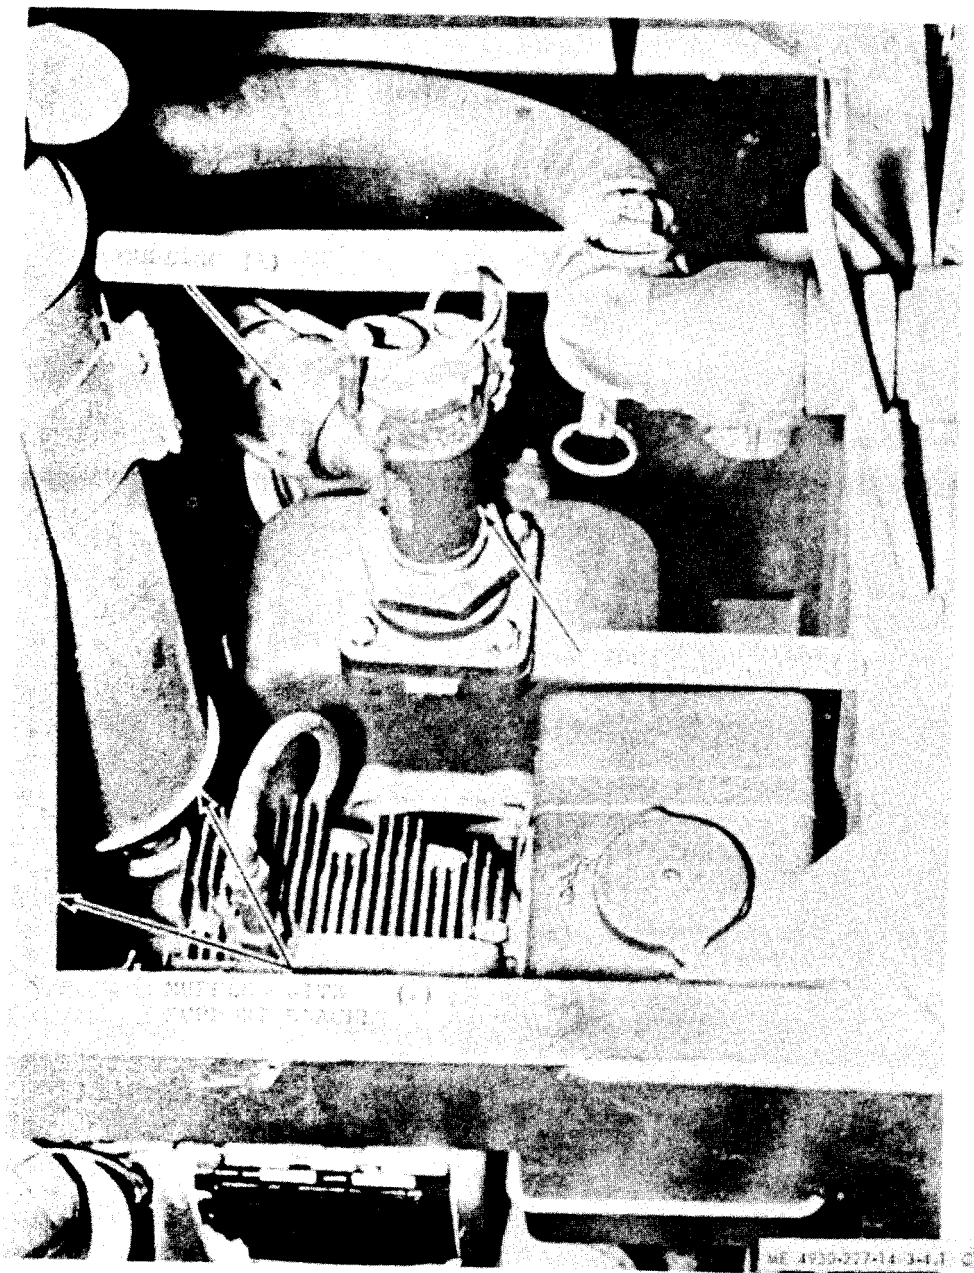
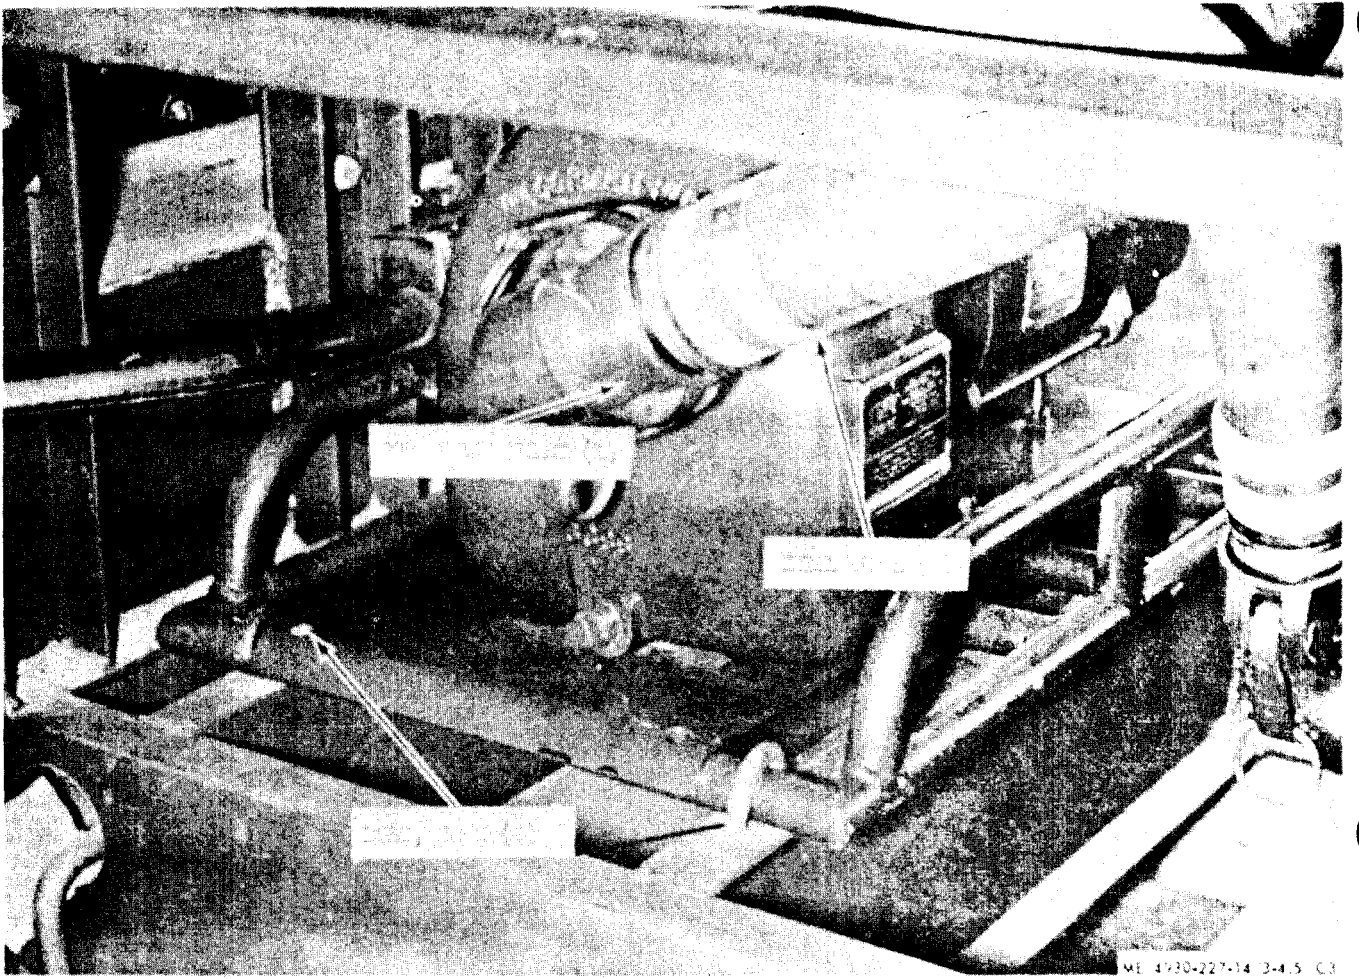
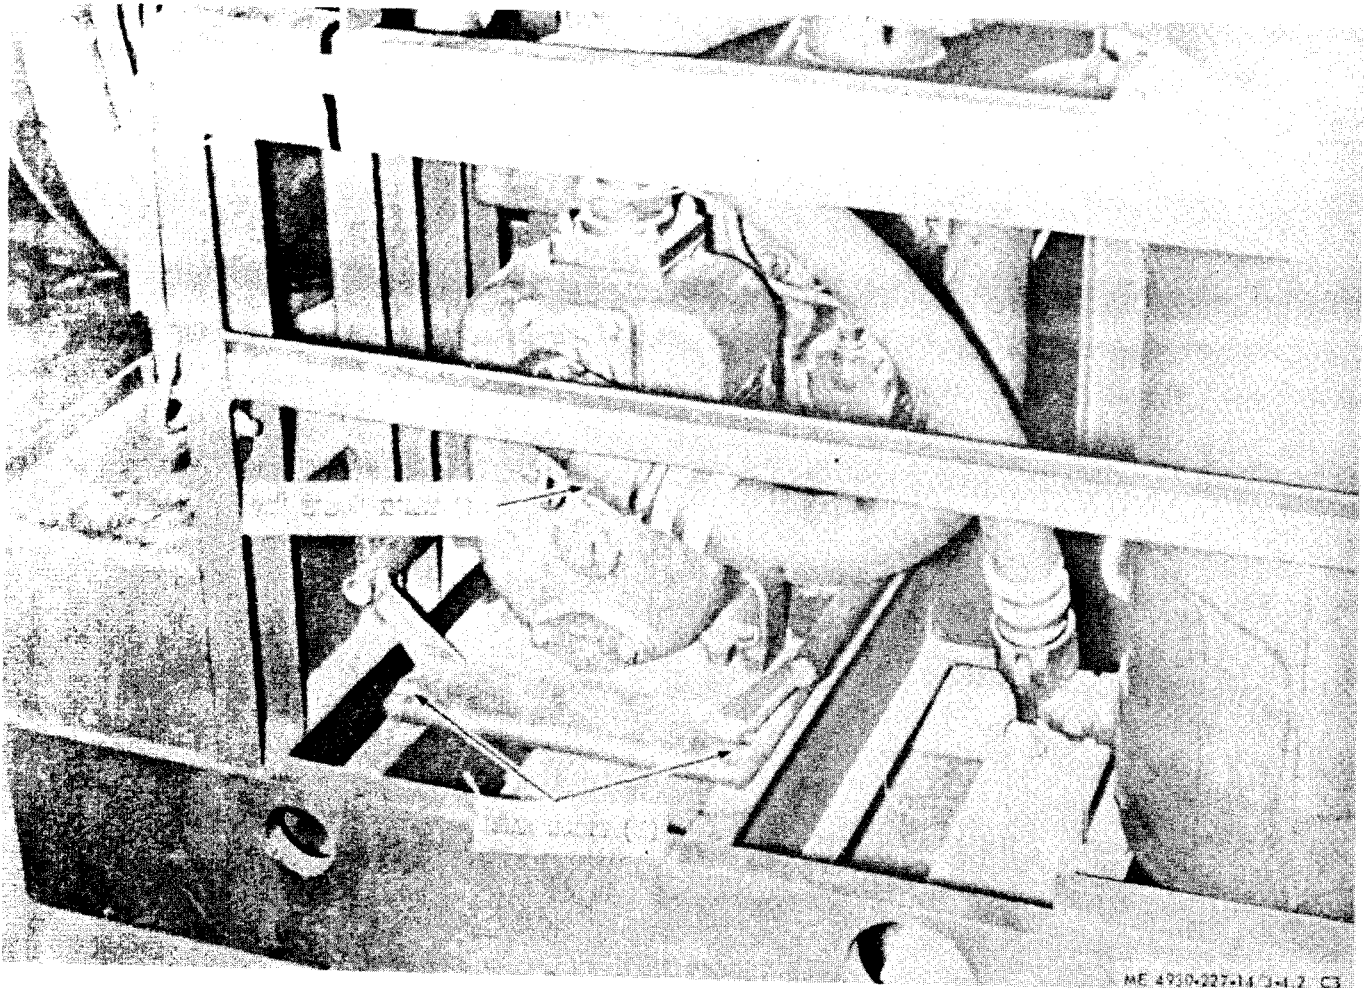

Figure 3-4.1. Pump and engine unit
Figure 3-4.2. Pump and engine unit
Figure 3-4.3. Pump and engine unit
(1) Disconnect the quick disconnect hose coupling from pump inlet. (1, fig. 3-4.1). Disconnect discharge hose (1, fig. 3-4.2).
(2) Remove muffler support bracket and muffler (2, fig. 3-4.1).
(3) Remove 2 each front bolts, (1, fig. 3-4.3) and 2 rear bolts (2, fig. 3-4.2).
(4) Remove pump and engine assembly by sliding out through front of frame assembly.
(5) Remove 90° elbow (1, fig. 3-4.2), from inlet of pump and remove tee (3, fig. 3-4.1), with cap from discharge end.
(6) Install tee (1, fig. 3-4.1) in pump discharge outlet with cap into pump.